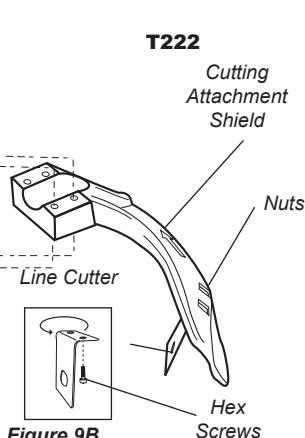

Figure 9B
1. Install the shield and clamp as shown in figure 9B.
2. Align the hole in the outer tube with the locator on the cap; install the two (2) screws finger tight.